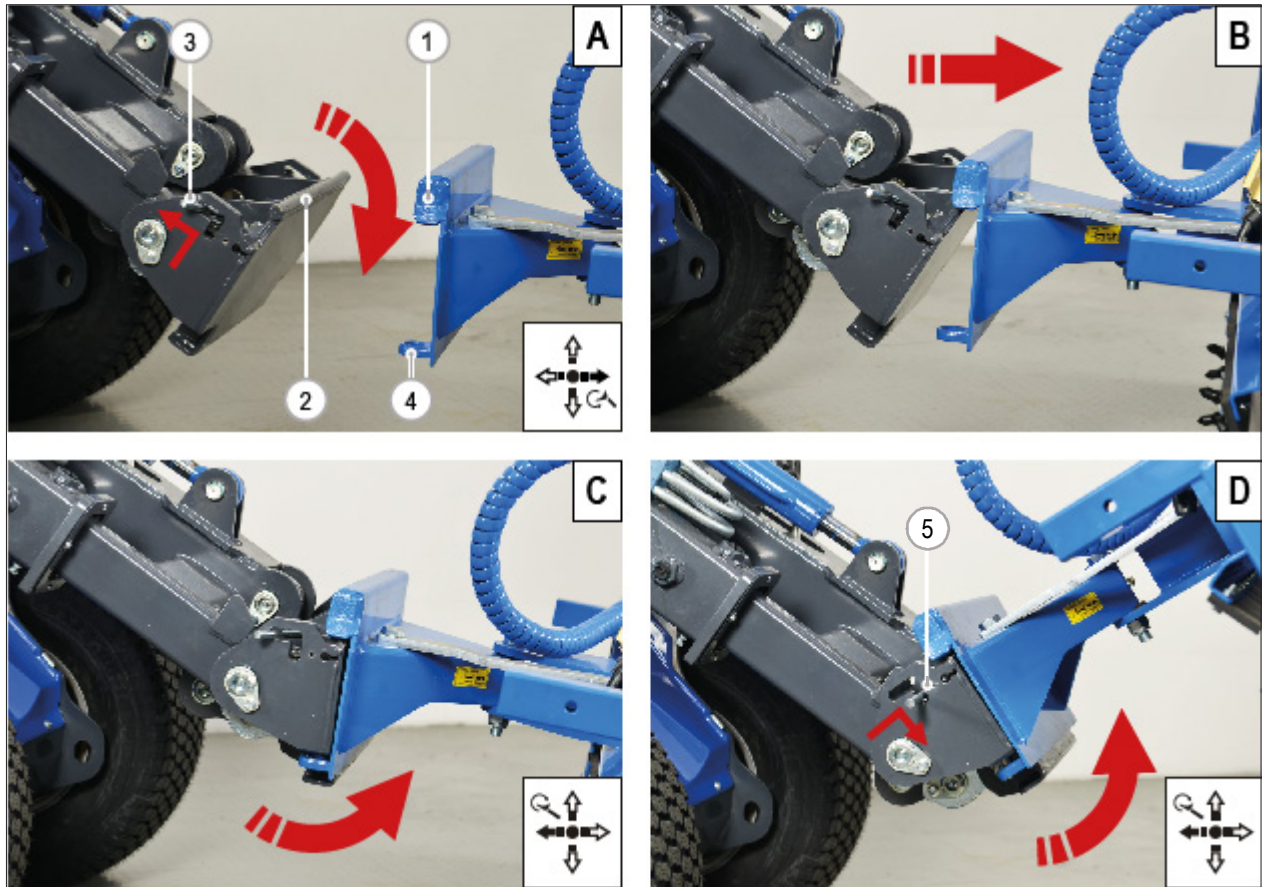

FIG. 28
- 6) Lift and push back the two levers (**FIG. 28 - Ref. 3**) placed on the quick coupler, in order to raise the hook plugs.
- 8) Operating carefully draw up the quick coupler to one of the attachment so as to go up the upper round profile (**FIG. 28 - Ref. 2**) in their curved seats of the attachment (**FIG. 28 - Ref. 1**).
- 9) Move slowly the multifunction joystick to the left, in this way the quick coupler leans backward, continue after lifting of a few centimetres the quick coupler and automatically the coupling system closes allowing the two plugs to fit in the seats of the attachment (**FIG. 28 - Ref. 4**).
- 10) Check visually the two levers (**FIG. 28 - Ref. 5**) are in low position. If not, it means the coupling was not successful.
- 4) Operating carefully draw up the quick coupler to one of the attachment so as to go up the upper round profile (FIG. 28 - Ref. 2) in their curved seats of the (FIG. 28 - Ref. 1) attachment.
- 1) Lift and push back the two release levers (**FIG. 28 - Ref. 3**) from the quick coupler in order to disengage the two plugs.